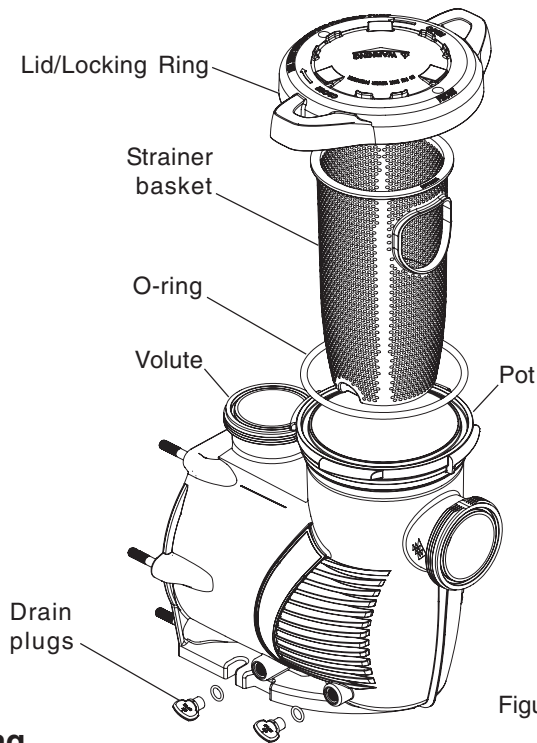

Figure 2.
5. Replace the basket. Be sure to align the notch in the bottom of the basket with the rib in the bottom of the volute, see Figure 2.
8. Reinstall the lid by placing the lid and locking ring on the pot; see Figure 2 on next page.